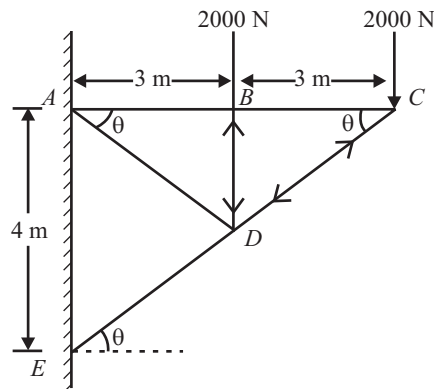

Fig. 13.44
Q. 16: Determine the forces in all the member of a cantilever truss shown in fig 13.44.